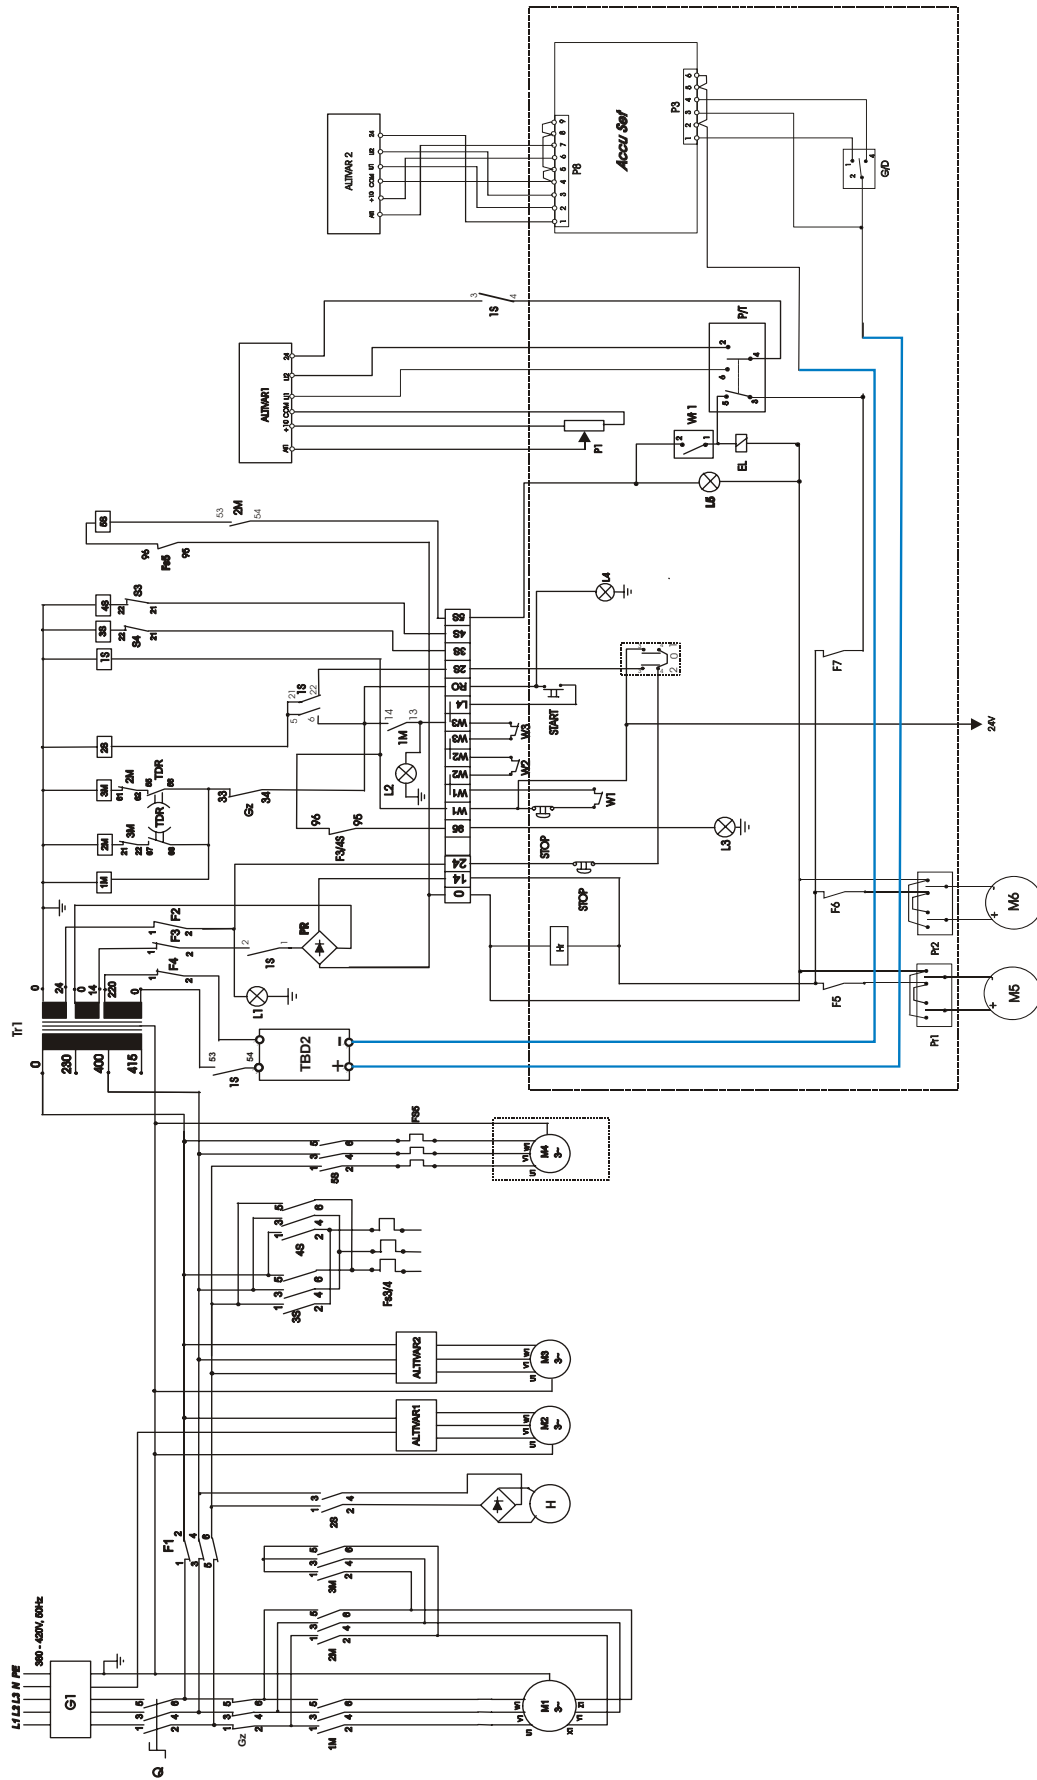

FIG. 5-1 LT70AC + ACCUSET SYMBOL DIAGRAM.
**Description (See Figure 5-1):**